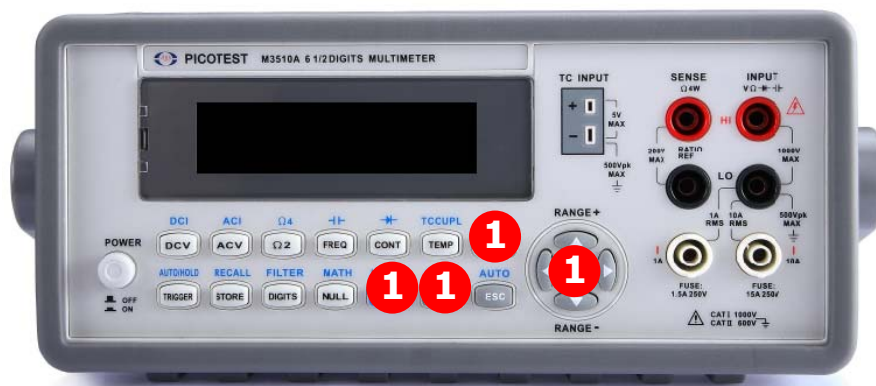

Figure 4-36
1. Do the procedure SHIFT + CONFIG > SYSTEM > ENTER > SCPI ERR > ENTER to check the error message, such as "ERROR CODE" or "NO ERRORS" as shown in **Figure 4-36**.